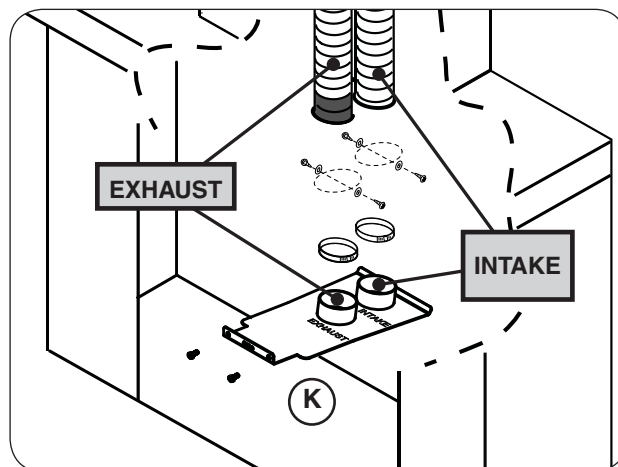

Fig. 22-2 Install vent adapter
11. Remove any excess slack in the pipes. Then attach the pipes to the vent adapter using only the four provided #10 x $\frac{3}{4}$ " screws, flat washers, and a Phillips screwdriver. Further secure with the supplied pipe clamps. See Fig. 22-2, K.
- Important:** Ensure the marked / up arrow pipe is connected to the exhaust port on the insert. The vent adapter is permanently marked, see Fig. 22-2.